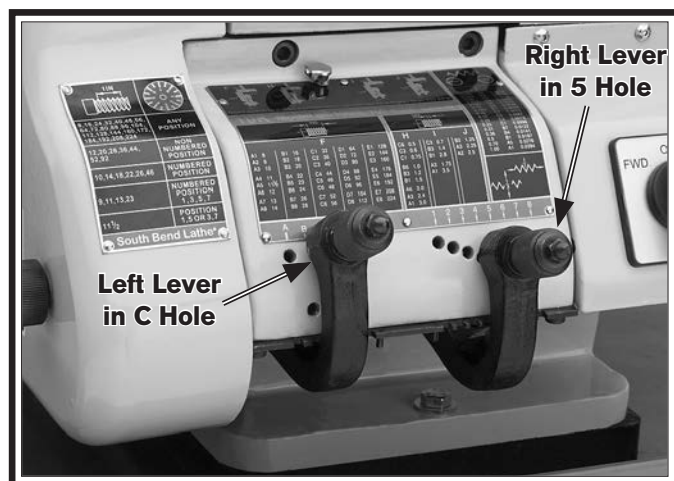

Figure 54. Quick-change gearbox levers configured for 0.17mm/rev. feed rate.
- a. Pull the locking pin out on the left gearbox lever, align it under the **C** printed on the label above it, then move it up and release the pin into the hole (see **Figure 54**).